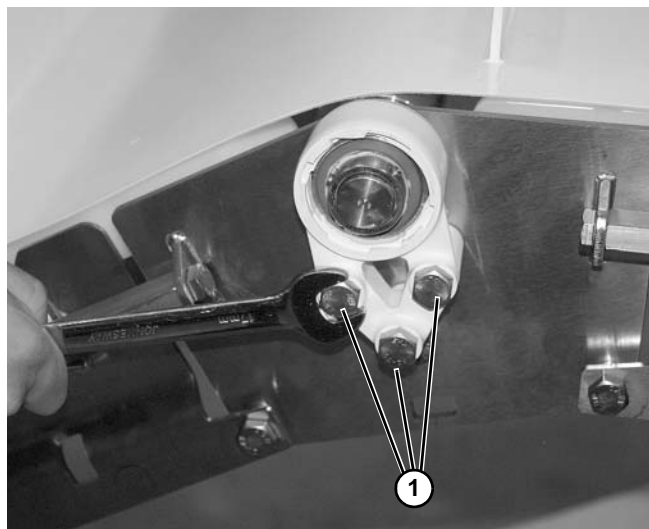

Figure 195
4. Remove three screws (Figure 195, item 1) securing bearing housing onto conveyor frame.